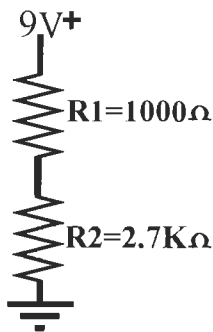

Figure L47-3
2. Before we move into measuring a complex circuit, let me prove to you that when you calculate the current in one portion of a circuit, that current is the same for the remainder of that circuit. You don't need to make the simple schematic shown in Figure L47-3. All the needed information is there.